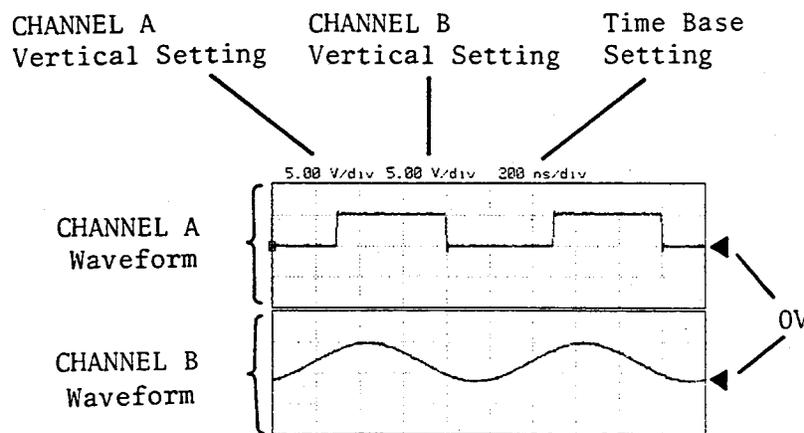

Figure 4-1. Oscilloscope Setup
The troubleshooting aids provide information to help you troubleshoot problems in the HP 4284A. Usually the troubleshooting aids consists of a list of jumpers, a list of test points, and troubleshooting information. The jumper list shows the strapping configuration for each jumper. The test point list gives a description of the signal at each test point. The troubleshooting information includes waveforms for troubleshooting the board, and the measurement setup for viewing the waveform is listed next to the waveform figure, refer to Figure 4-1.
- (1) Set the oscilloscope inputs to DC coupled (1 M $\Omega$ ).
- (2) The settings (using a 1:1 probe) for channel A and B, and the time base setting are displayed with the waveform, refer to Figure 4-1. When a 10:1 divider probe is used, the channel A and B settings must be multiplied by 10.